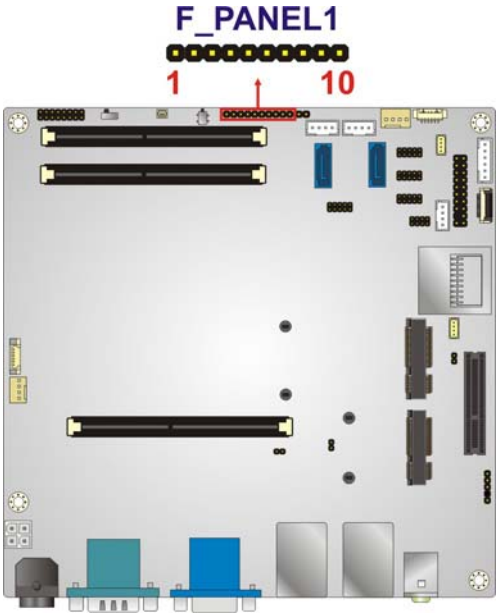

Figure 3-11: Front Panel Connector Location
**CN Location:** See Figure 3-11